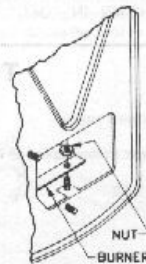

Figure 8
4. Inspect main burner. To properly inspect burner, it must be removed (see Figure 8). If excessive rust and corrosion are present on burner surface, the burner must be cleaned or replaced. The burner may be cleaned with a steel wire brush and the burner ports and venturi blown clean using compressed air.